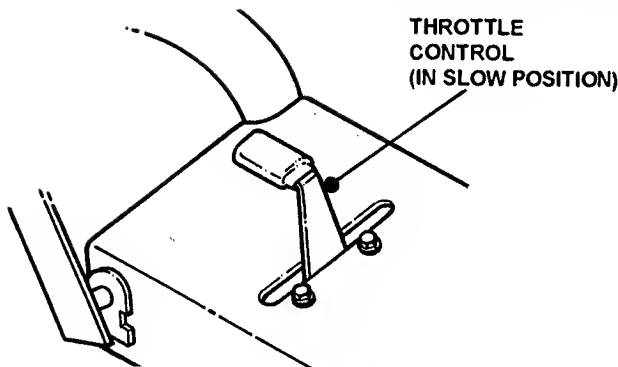

FIGURE 5
3. Move Throttle Control Lever to **SLOW** (turtle) position. See Figure 5.
4. Move Throttle Control Lever to **SLOW** (turtle) position. See Figure 5.